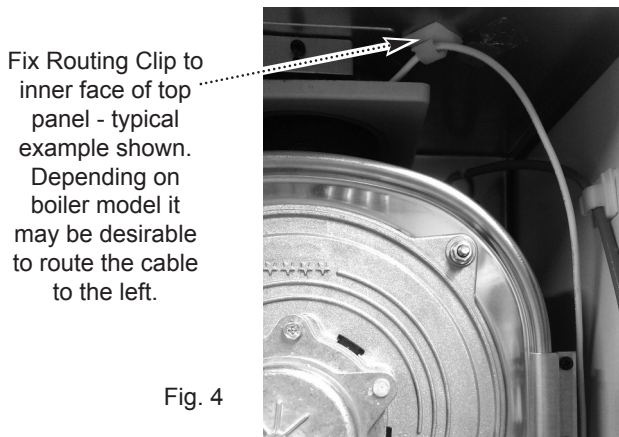

Fig. 4
8. Using the wipe provided clean an area on the inner face of the top panel. Fix one of the self adhesive routing clips to the panel (Fig. 4).